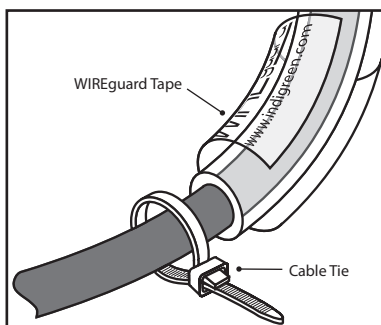

Figure 1
4. Once WIREguard is in place, wrap the second end of WIREguard with the enclosed pre-cut WIREguard clear tape. See Figure 1.
5. To prevent the WIREguard from sliding toward the sensor, place the enclosed cable tie around the sensor wire next to the sensor end of the WIREguard (one extra cable tie included). Fasten the cable tie so that it is firm around the sensor wire but does not compress it. See Figure 1. Cut the excess length off the cable tie.